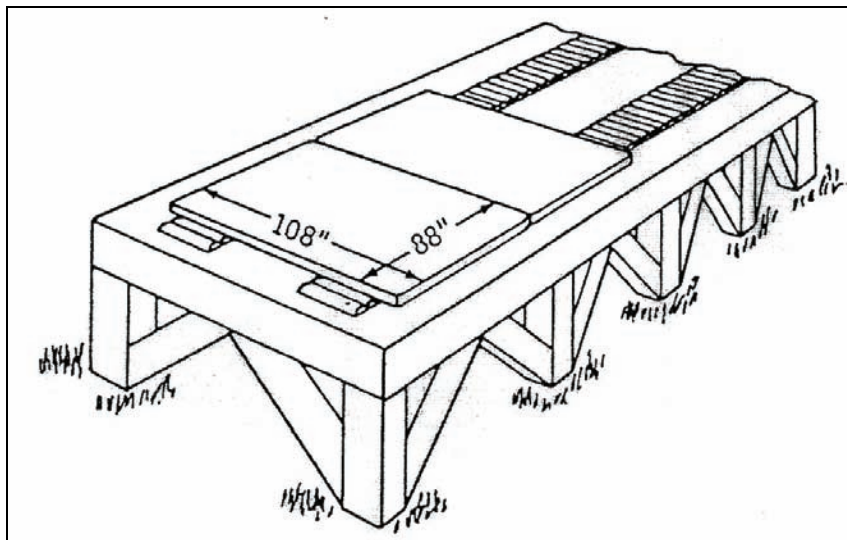

Figure 3-14. Aligning Indents and Detents
- b. Align the indents and detents on the 108-inch side of each pallet (see Figure 3-14).